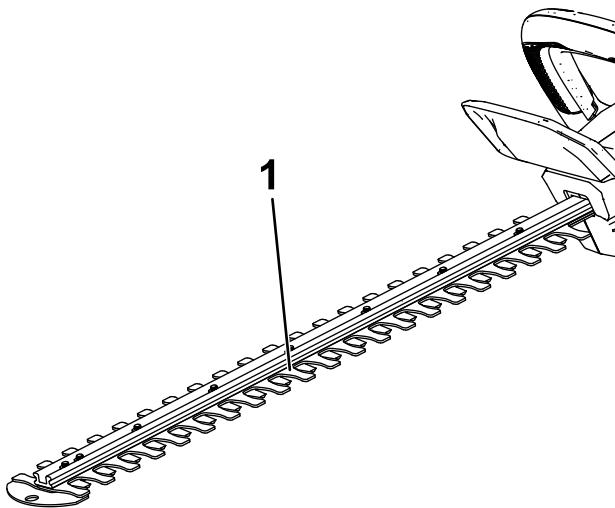

Figure 11
3. Apply light weight machine oil (such as #10) along the edge of the top blades (Figure 11).